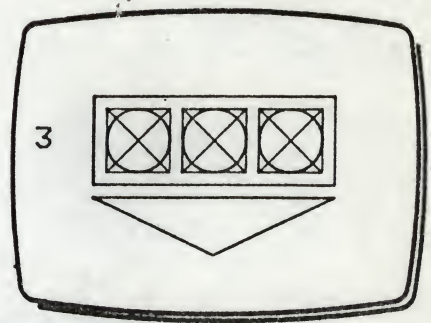

Fig 3
- 10 Add some more lines to it as in Fig 3.